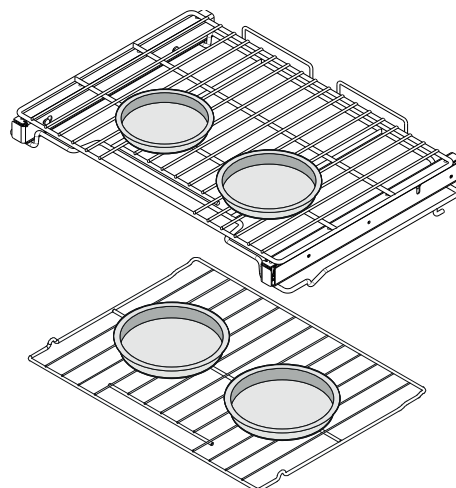

Fig. 17 Pans spaced for convection baking for cakes.
- For baking cakes use the following rack positions and place bakeware as shown in Figure 17.